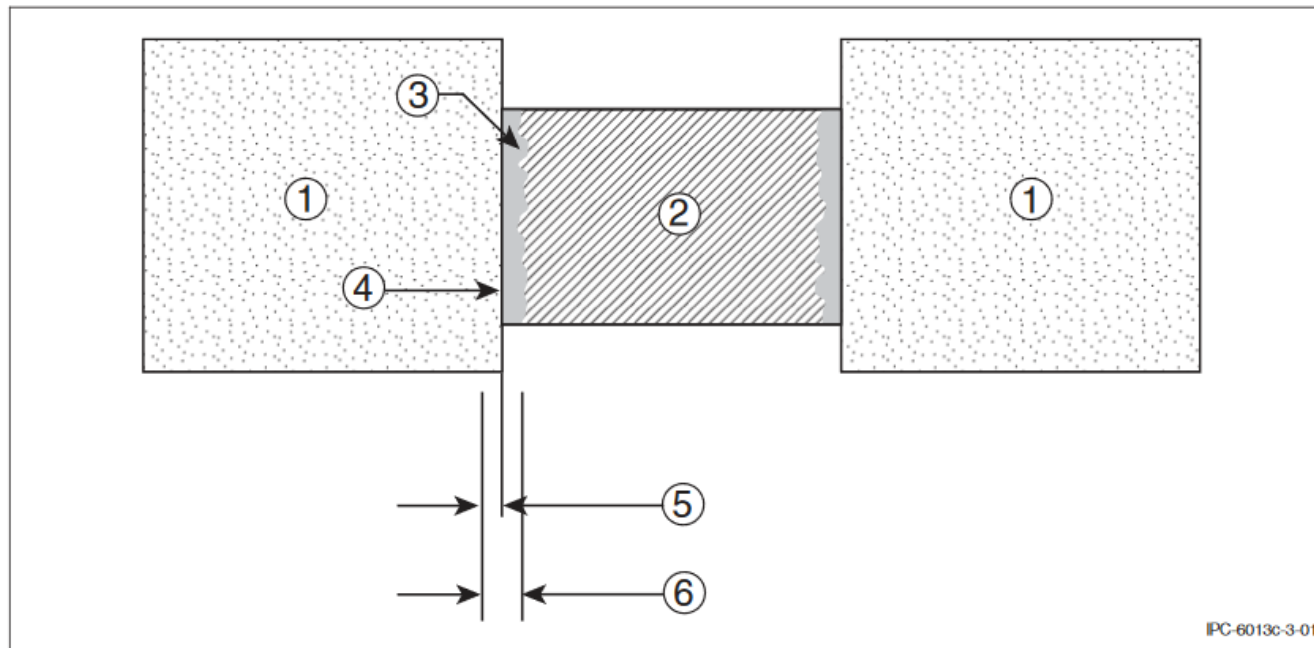

Figure 3-1 Transition Zone
3.3.1.3 Transition Zone, Rigid Area to Flexible Area The transition zone is the area centered on the edge of the rigid portion from which the flex portion extends. The inspection range is limited to 3.0 mm [0.118 in], centered on the transition, which is the edge of the rigid portion (see Figure 3-1). Visual imperfections inherent to the fabrication technique (i.e., adhesive squeeze-out, localized deformation of dielectric and conductors, protruding dielectric materials, crazing, or haloing) **shall not** be cause for rejection. Imperfections in excess of that allowed **shall** be AABUS, or as so stated on the procurement documentation.